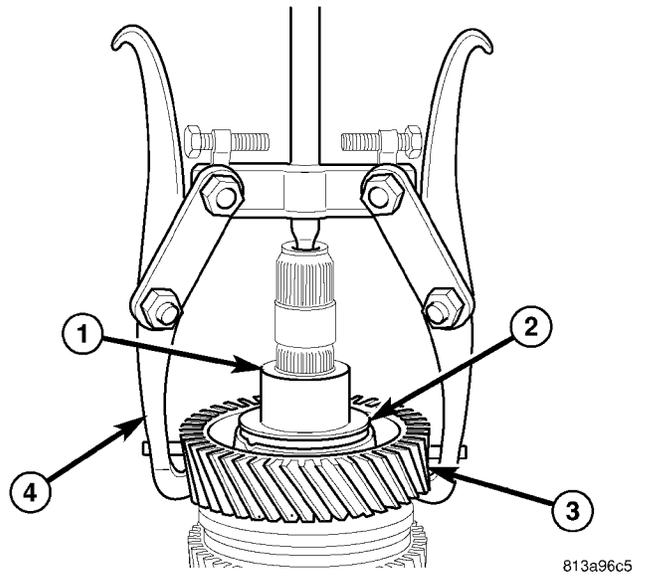

Fig. 31 FIRST GEAR
(14) Remove reverse gear bearing race (1) (Fig. 31), thrust washer (2) and first gear (3) with puller (4). Place puller jaws under first gear (3).